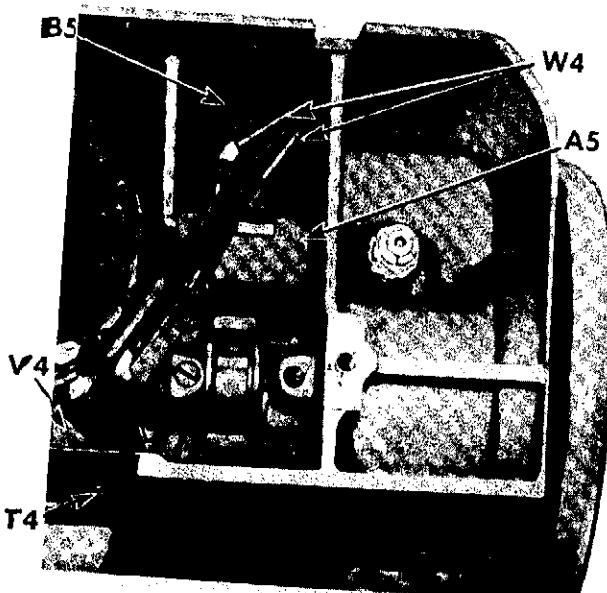

Fig. 304. Wiring at Top of Arm
4. Remove two wire connectors **W4**, Fig. 304 and disengage light fixture wire from motor leads.
5. Lift oil shield **A5**, Fig. 304 from arm casting.
6. Remove screw **T4** and lead clip **V4**, Fig. 304, page 147.
3. Replace lead clip **V4** and fasten with screw **T4**, Fig. 304.
4. Replace oil shield **A5**, as shown in Fig. 304, page 147.
5. Connect one light fixture lead to each of the motor leads and cap with wire connectors **W4**, as shown in Fig. 304.